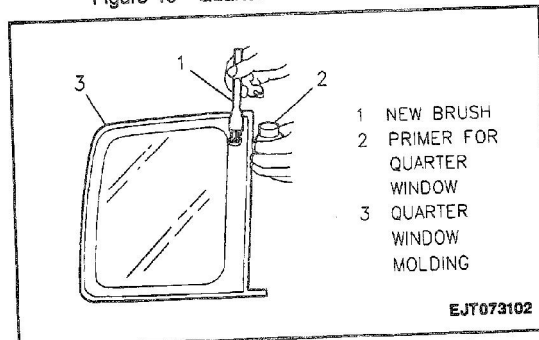

Figure 20—Applying Primer to Quarter Window
2. Using a new brush, apply primer #1 to edge and inner surface of quarter window (Figure 20).
3. Using a new brush, apply primer #2 to edge and inner surface of quarter window (Figure 20).